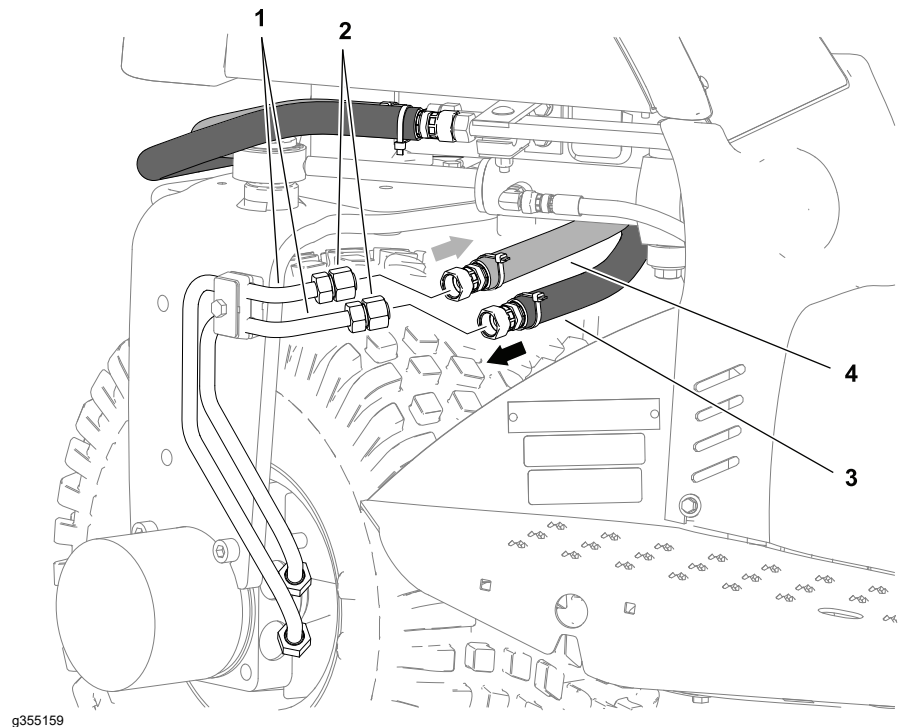

Figure 35
- A. Isolate the front wheel motor from the traction circuit by disconnecting both of the hydraulic hoses from the hydraulic tubes above the front wheel motor. Cap the hydraulic tubes and connect the hydraulic tester to the 2 disconnected hoses. Make sure the tester is installed in the correct flow direction and the tester flow control valve is fully open; refer to Figure 35.